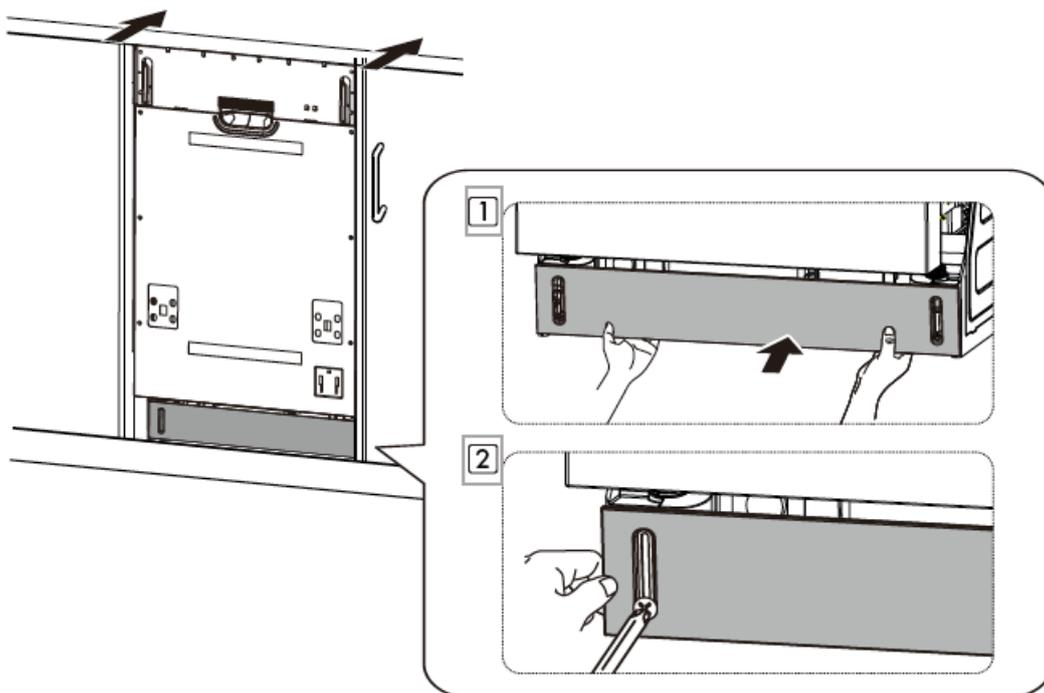

Figure 17
11. To install the kick plate with screw ST3.9* 13, refer to Figure 17.